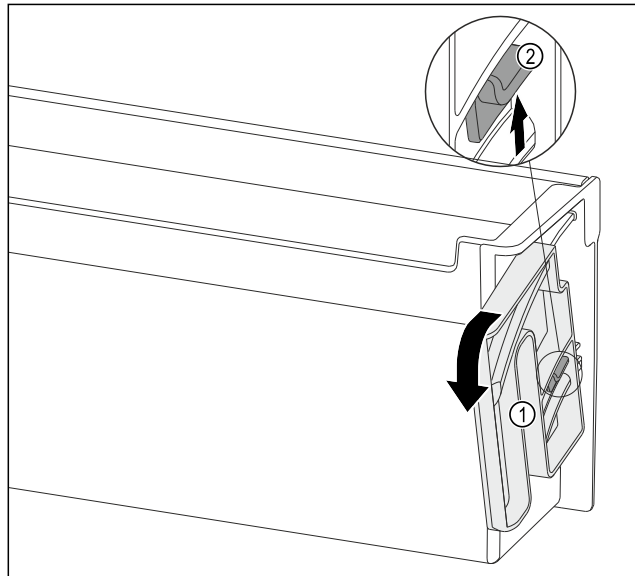

Fig. 110
- ▶ Turn the swivel unit Fig. 110 (1) in the specified direction as far as it goes.
- ▶ Push the tab Fig. 110 (2) up and remove the swivel unit Fig. 110 (1).